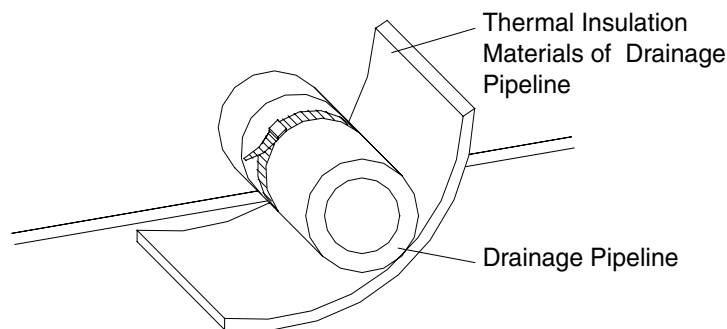

Fig.8.10 Thermal Insulation of Drainage Pipeline
- (1) The drainage pipeline shall be installed with an inclining angel of 5~10°, so as to facilitate the drainage of condensate. The joints of the drainage pipeline must be covered by thermal insulation materials to avoid generation of exterior condensate. (As shown in Fig. 8.10)
- (2) A drainage outlet is located at both the left and right sides of the indoor unit. After selecting one drainage outlet, the other outlet shall be blocked by rubber plug. Bundle the blocked outlet with string to avoid leakage, and also use thermal insulation materials to wrap the blocked outlet.
- (3) When shipped out from factory, both the drainage outlets are blocked by rubber plugs.
- (4) When connecting the drainage pipeline with the unit, do not apply excessive force to the pipeline at the side of the unit. The fixing position of the pipeline shall be near the unit.
- (5) Purchase general-purpose hard PVC pipe locally to be used as the drainage pipeline. When carrying out connection, place the end of the PVC pipeline into the drainage hole. Use flexible drainage tube and tighten it with thread loop. Never use adhesive to connect the drainage hole and the flexible drainage tube.
- (6) When the laid drainage pipeline is used for multiple units, the common pipe shall be about 100mm lower than the drainage outlet of each set of unit. A pipe with thicker wall shall be used for such purpose.